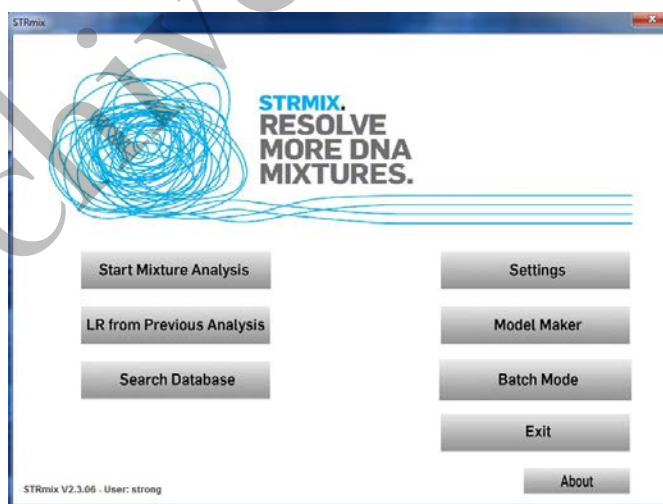

FIGURE 1
Start STRmix™ by double-clicking the STRmix™ icon on the desktop or select STRmix™ from Start > STRmix™. The STRmix™ main menu will display (see Figure 1).
1. Multiple samples may also be added to STRmix™ to be processed sequentially by selecting Batch Mode from the screen in Figure 1.
1. From the STRmix™ main menu (Figure 1), select Search Database.
1. When performed after the initial deconvolution, select LR from Previous Analysis from the STRmix™ main menu (Figure 1).
Once the new database has been reviewed it needs to be added to the STRmix™ software. From the STRmix™ main menu (Figure 1) select Settings. Select Edit/View population. Enter the name of the Excel csv frequency file in the Pop Name field. Select Find File in the Allele freq file field to open a file chooser window. Select the frequency file for the alternate allele frequency database. Enter appropriate Pop proportion and default Fst values. Select Save Pop